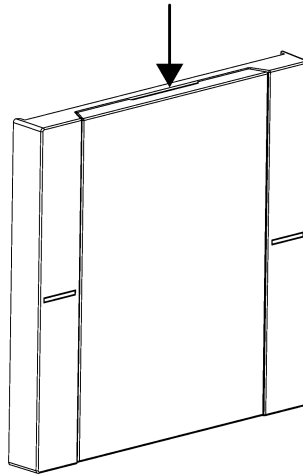

Figure 9: Feel for a notch in the labelling field cover
- Search for a notch in the cover of the labelling field by feeling with a finger (see figure 9).